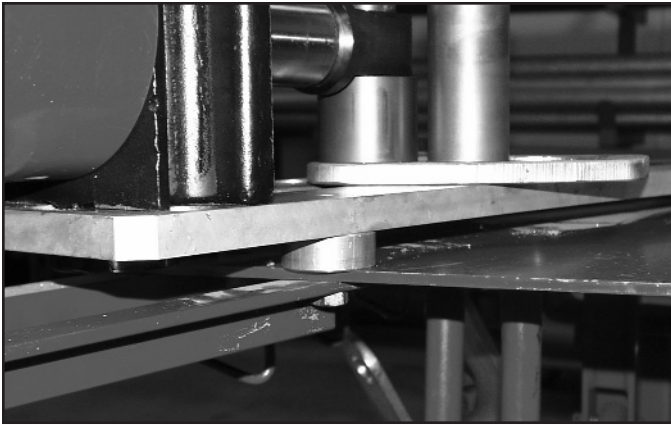

Fig. 3
4. Fasten the lower frame and stabilizer bar to the table. Use two 1/2 - 13 UNC x 1 3/4" long bolts installed from the underside of the table. Do not fully tighten the bolts. Figure 3 & 4.